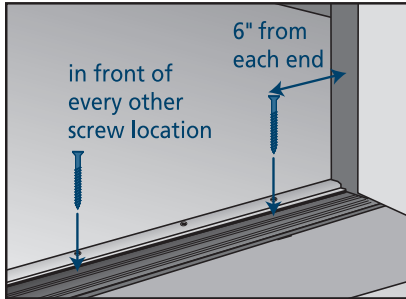

Fig. 30
- Db. Some inswing doors require an adjustable threshold; if **adjustable threshold** (**Fig. 30**):